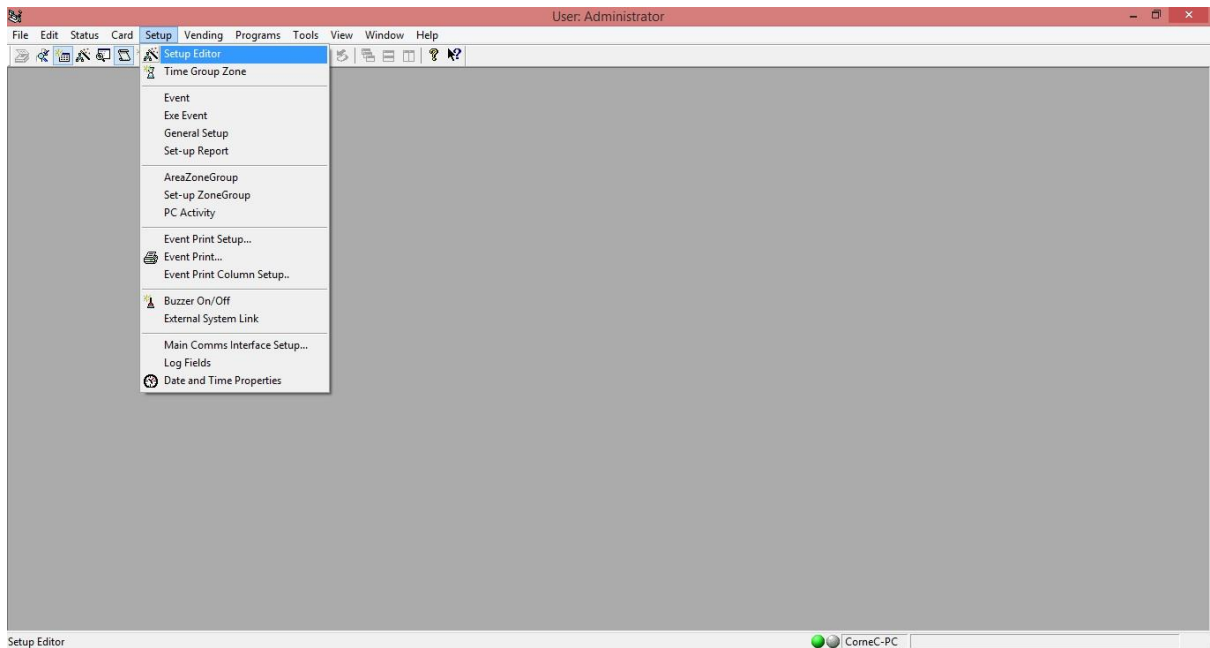
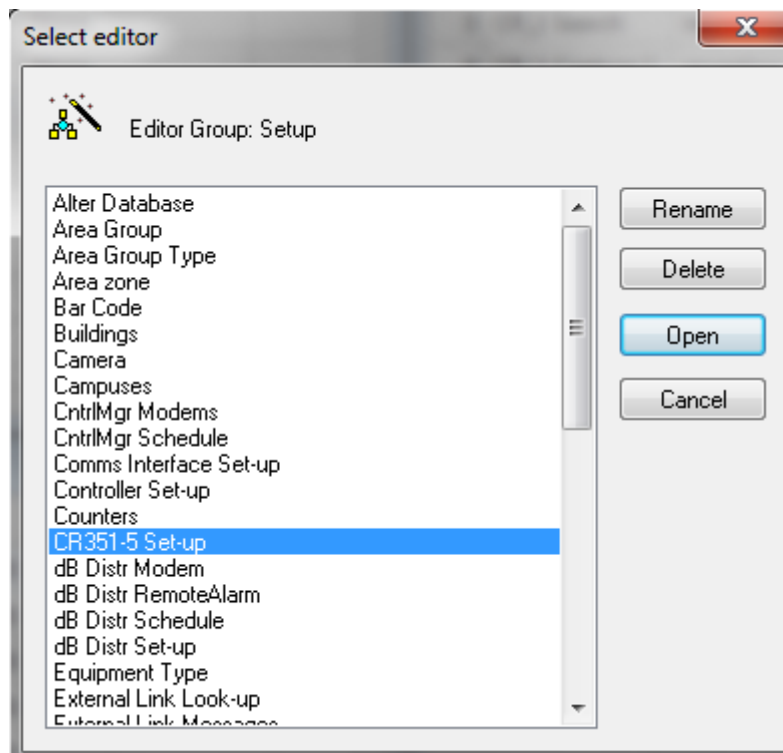

Figure 1
Figure 2
1. In Softwin3 Software click on **Setup** and then on **Setup Editor and the CR351-5 set-up**. See Figure 1 and Figure 2.